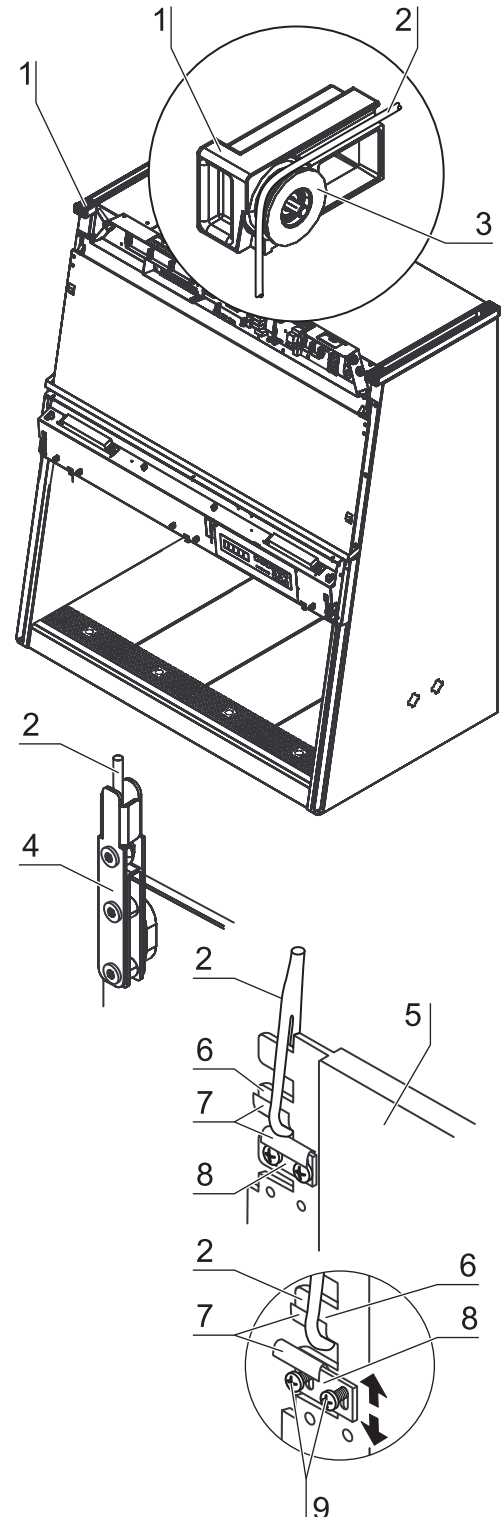

Fig. 20
6. **Fig. 20:** Disconnect the cable [2] from the window bracket [4] (see Section 12.1.1).